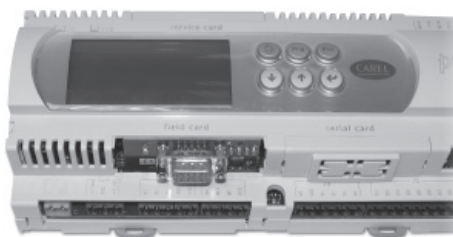

Fig. 3
4. insert the optional card in the corresponding plug-in connector, paying attention to the electrical connections and making sure it is fully inserted against the two plastic supports on the pCO/pCO3 container (Fig. 3);